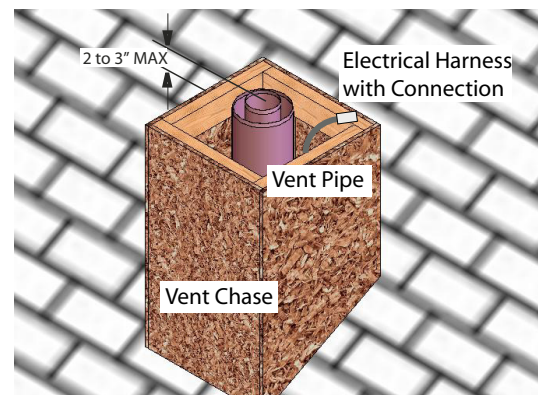

Figure 11a.
Step 2: Install the Vent pipe female end up 2" to 3" maximum from the top of the chase box. Install the electrical harness (EPVH-10-100) that will communicate with the Power Vent module, see **Figure 11a**.